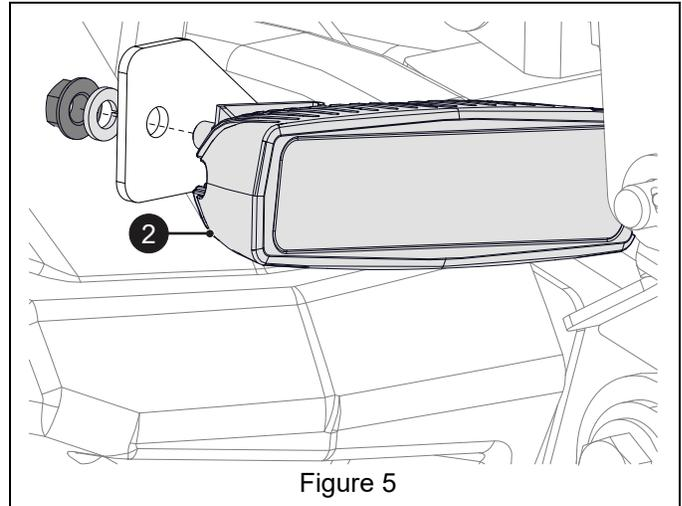

Figure 5
7. Secure each headlight to mounting brackets with included hardware. Headlights can be mounted either horizontally or vertically depending on preference. Do not fully tighten. See Figure 5.